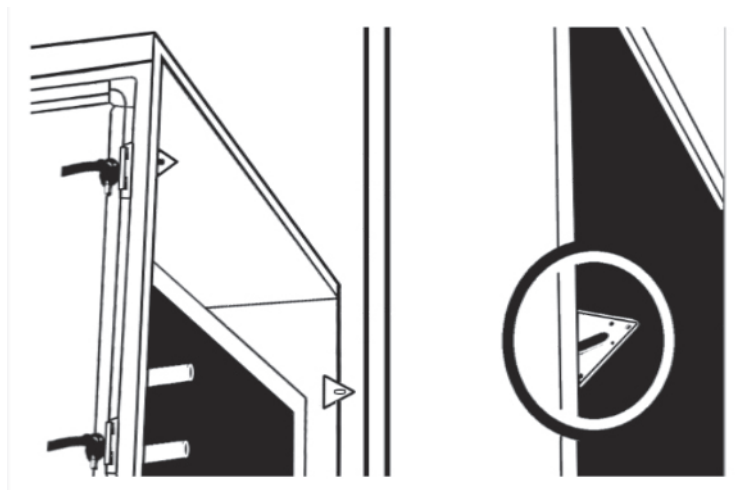

Figure 34e – Internal Cabinet Fastening
- Internal cabinet mounting brackets may also be included (see Figure 34e). After the above steps are complete use tek screws to mount the other side of the bracket to the adjacent section. This will aid in alignment and structure of the assembled cabinet sections.